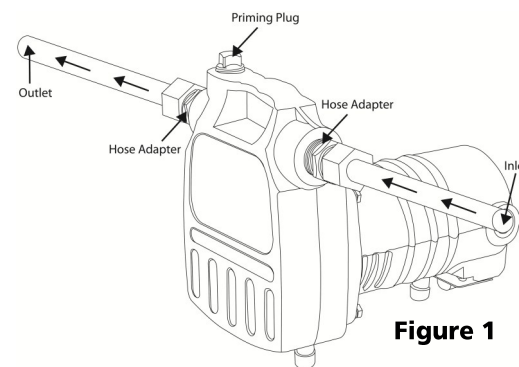

Figure 1
- The inlet and discharge ports are 3/4" Female NPT. Standard water pipe can be threaded into the pump housing. If garden hose is to be used, thread the adapters (included) into the housing. See Figure 1. It is recommended to use thread seal tape or pipe joint compound on the threads to ensure a tight seal. **NOTE:** Standard garden hose may collapse under suction pressure. To reduce the possibility of hose collapse, use a reinforced hose on the suction line such as PVC, plastic or galvanized pipe.
- Remove the priming plug on top of the pump housing. See Figure 1.